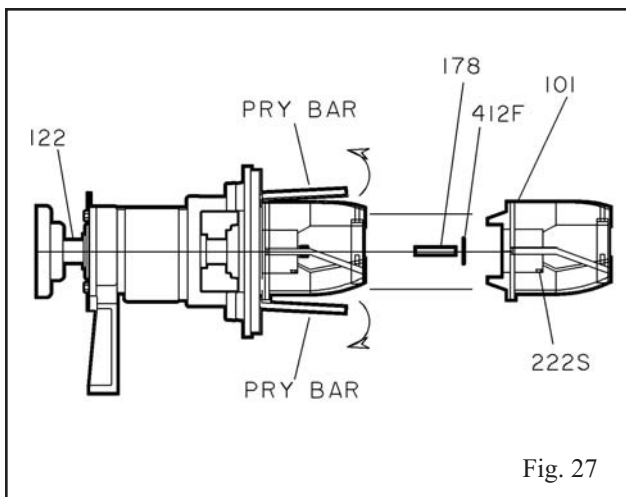

Fig. 27
2. Lock shaft (122) to prevent turning and remove rotor nut set screws (222S), rotor nut, and O-ring (Fig. 27).